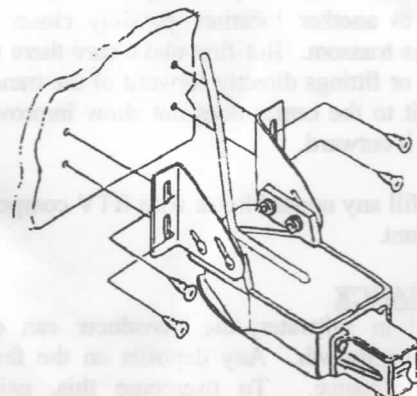

Figure 3 – Fastening brackets to transom
5. Fasten the transducer to the transom using the #10 x 3/4" screws. See Figure 3.